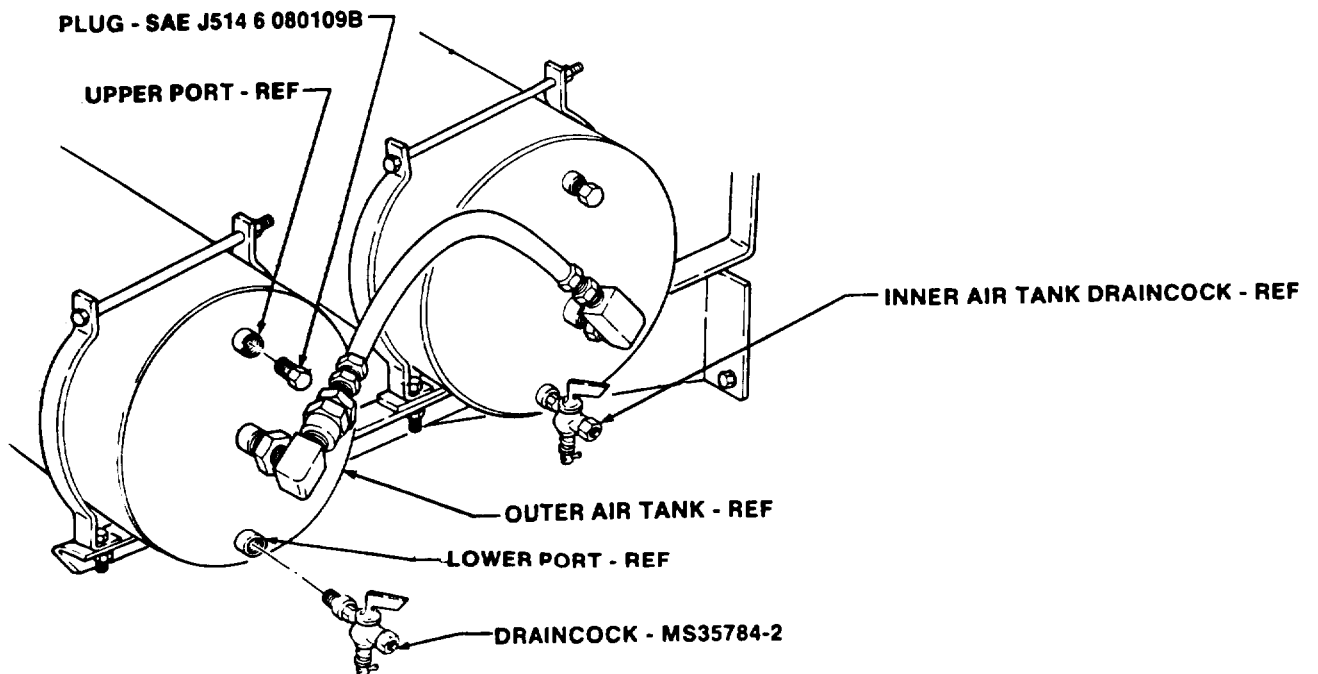

FIGURE 10
(9) Install SAE J514 6 O80109B plug in upper port on outer air tank as shown in figure 10.
(10) Install MS35784-2 draincock in lower port on outer air tank as shown in figure 10.
- (1) Start vehicle and build air pressure up to operating range (refer to TM 9-2320-273-10).
- (2) Inspect vehicle for air leaks, loose fittings, screws, and nuts (refer to TM 9-2320-273-10).
- (3) Shut off vehicle, drain air system by opening draincock on inner air tank as shown in figure 10.
- (4) Engage transmission air charging valve knob and shift from first gear through fifth gear ranges.
- (5) Return transmission to neutral and disengage transmission charging valve knob.
- (6) Repeat step 1 and road test vehicle (refer to TM 9-2320-273-10)